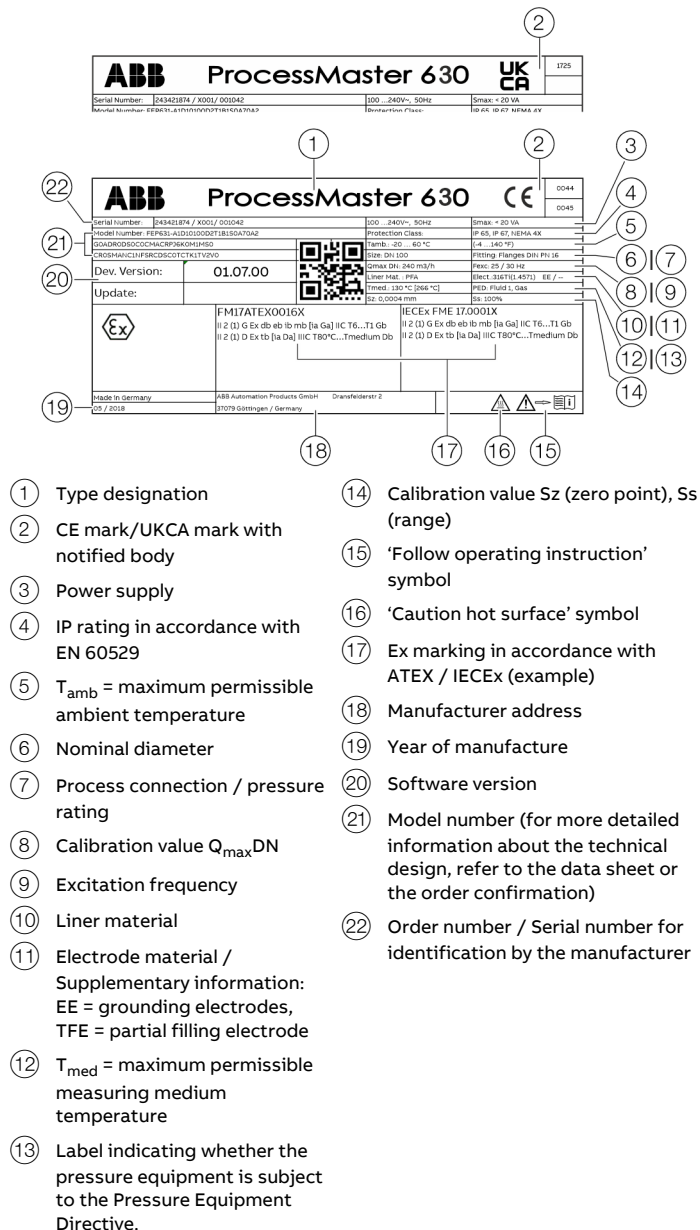

Figure 5: Name plate (example)
Information on the relevant fluid group (Figure 5, Position ⑬):